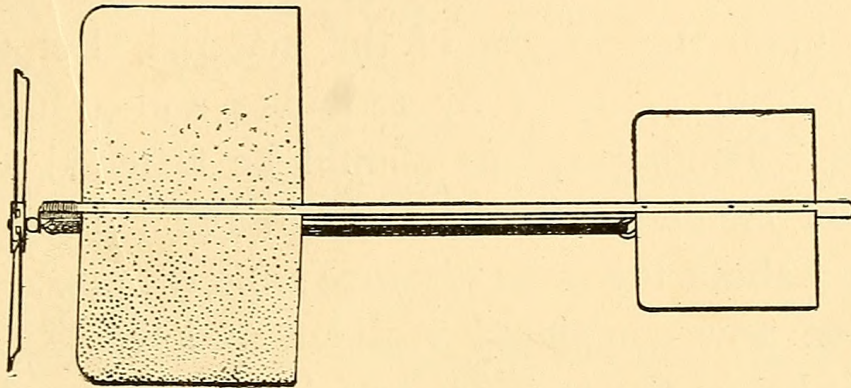

FIG. 383. — A Simple Monoplane Model.
**A Simple Monoplane Model** is shown in Fig. 383. This makes a splendid form of glider as well. Figure 384 shows the model without the planes, and Fig. 385 shows the details for the propeller.